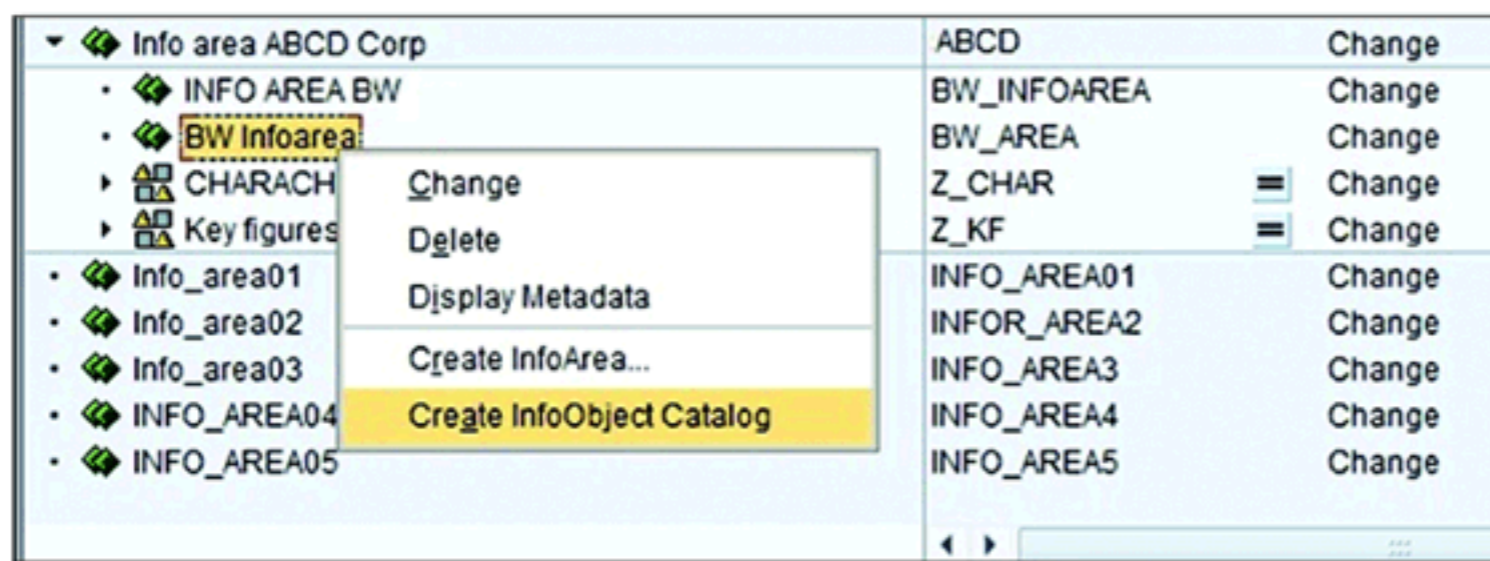
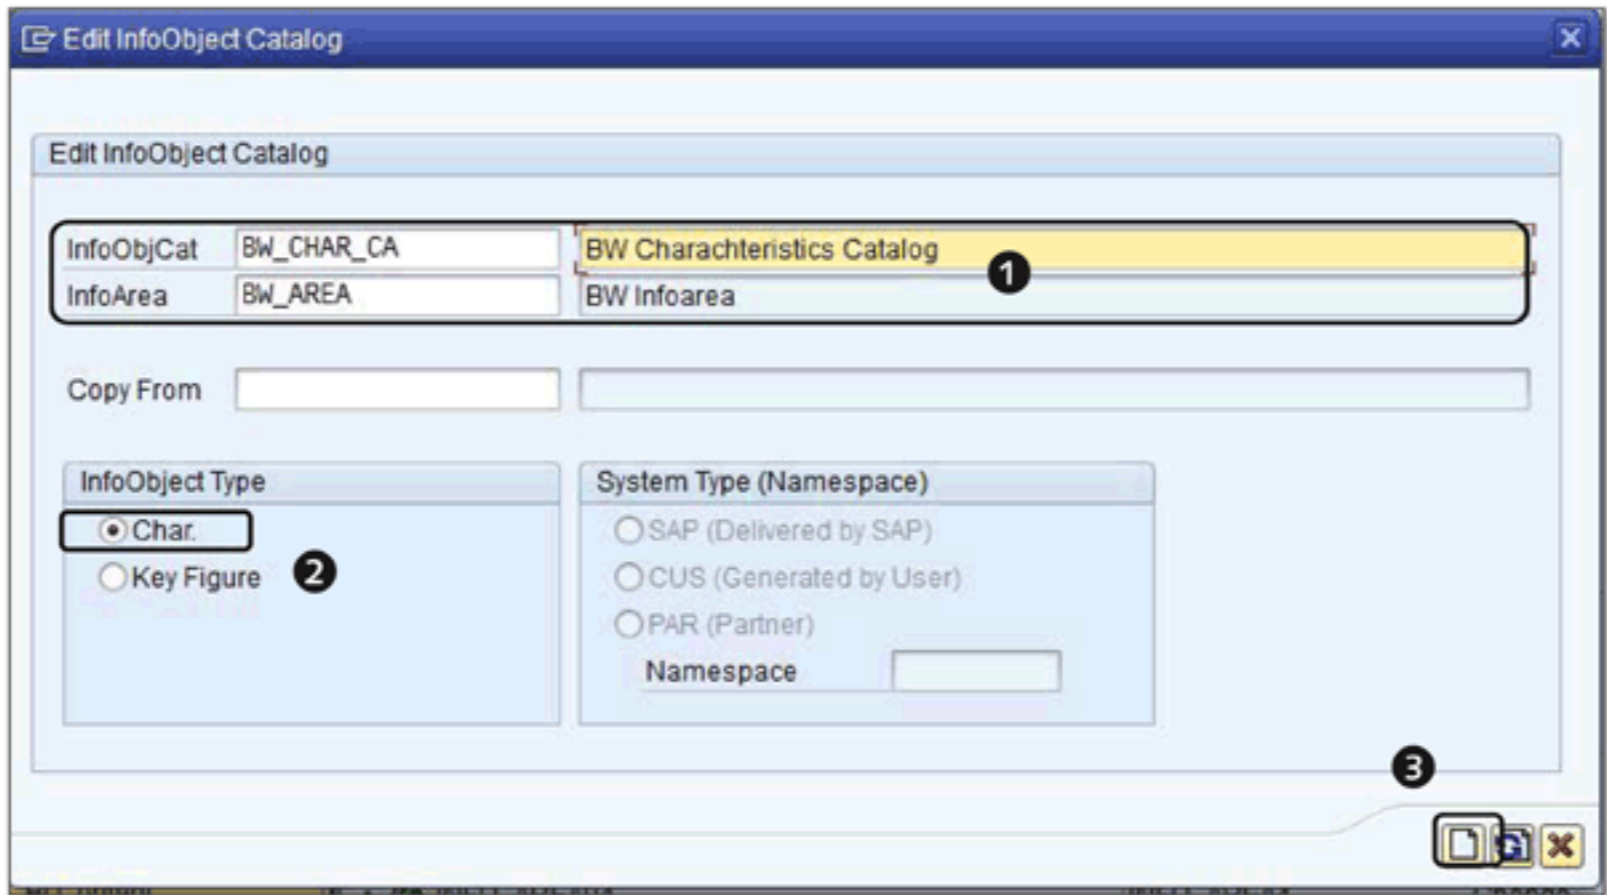

Figure 3.7 Create InfoObject Catalog
Figure 3.8 Edit InfoObject Catalog
3. Within the modeling tasks, click on INFOOBJECTS. A tree structure appears on the right side of the screen (Figure 3.7). Click on any row, and the branch opens into the folders or the branches below it.
4. To create an InfoObject catalog, select the InfoArea where you want the catalog to be created. We chose InfoArea BW_AREA. Use the context menu to select CREATE INFOOBJECT CATALOG (Figure 3.7). The screen shown in Figure 3.8 appears.
5. Enter the technical name of the InfoObject catalog and its text description (❶ of Figure 3.8).
6. Because you're creating a characteristic InfoObject catalog, select the CHAR. radio button (❷).